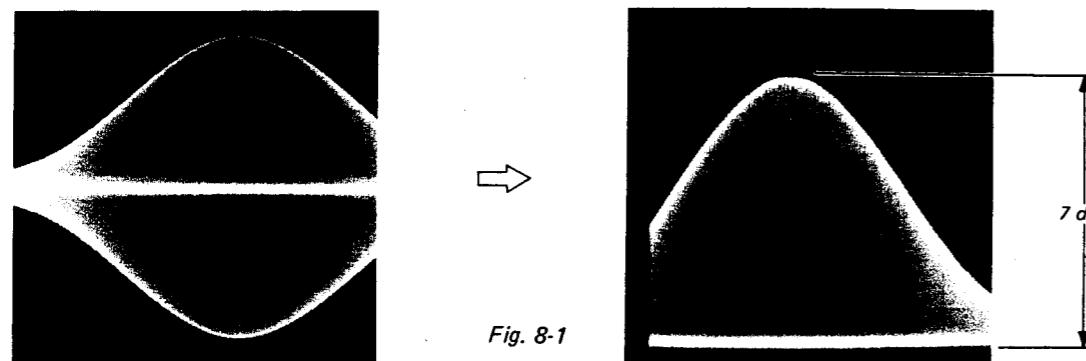

Fig. 8-1
- 3. Make the V/div of oscilloscope into VARIABLE, and match the upper section of waveform to 7 div as shown in Fig. 8-1.